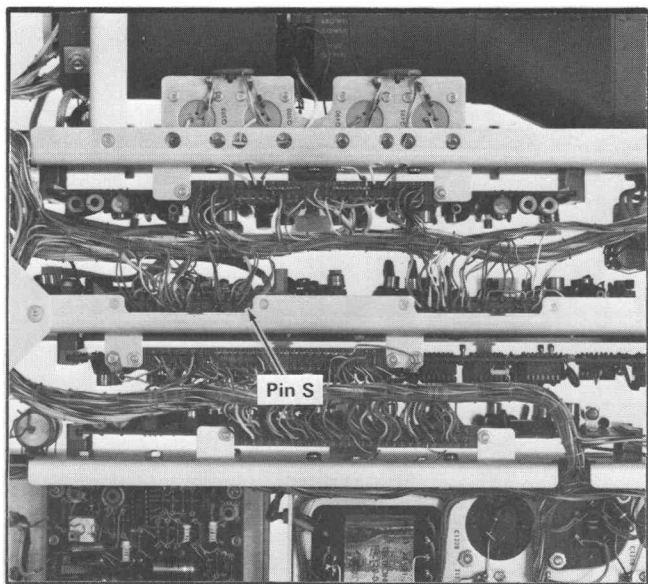

Fig. 5-13. Location of Pin S, Z Axis board.
d. With the DC voltmeter monitoring the voltage at pin S (approximately +17 VDC), adjust R223 (Z DC Bal), see Fig. 5-13, for minimum shift of DC level while rotating R236 (Z Gain) from fully clockwise to fully counter-clockwise.